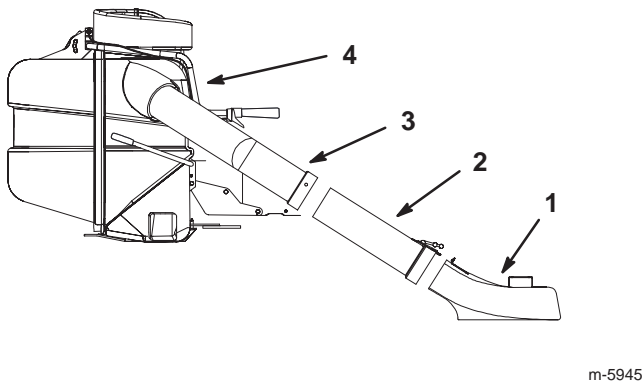

Figure 16
3. Install the upper tube into the collector (Fig. 16).
10. Install the tube assembly into the collector (Fig. 16).